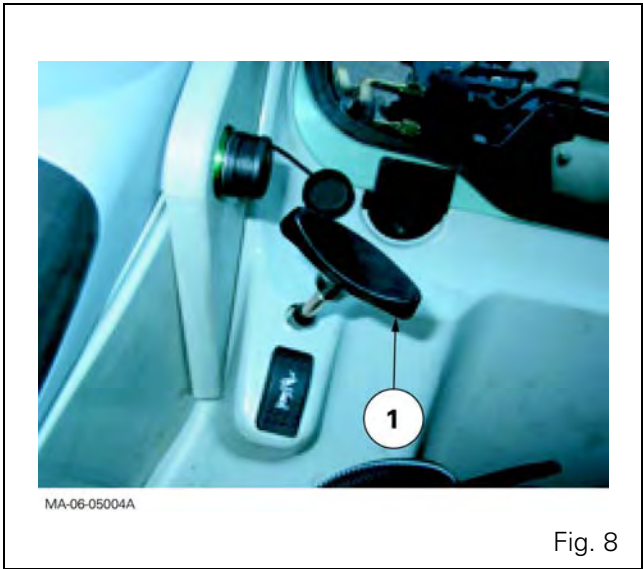
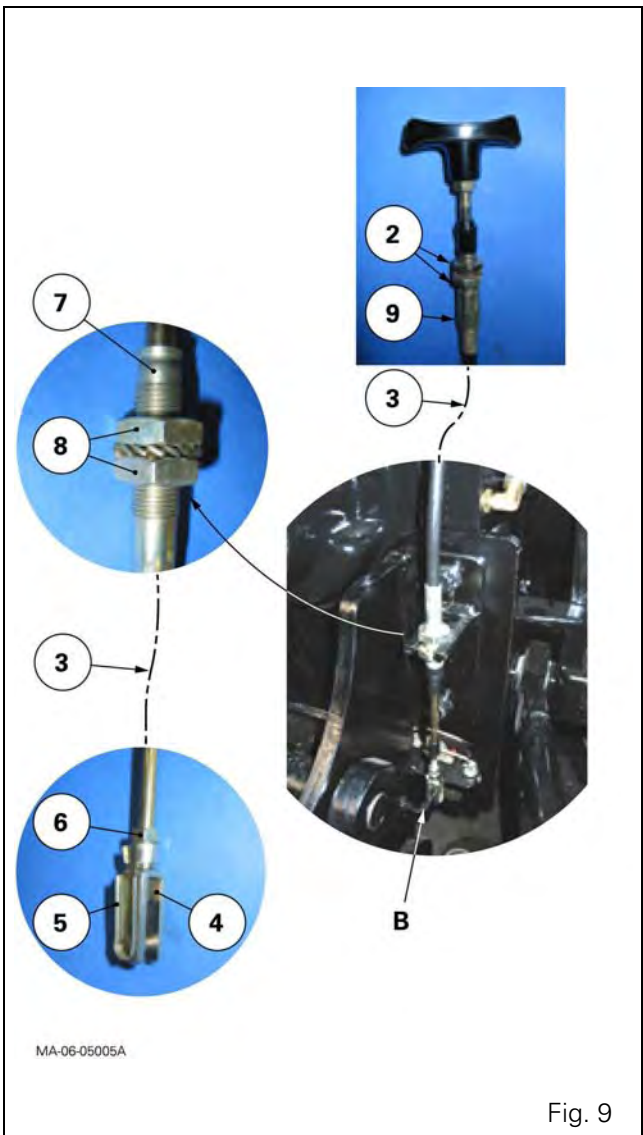

Fig. 8
Fig. 9
Unlock the moving plate, using the handle (1) located in the cab at the rear of the seat (Fig. 8).
Fitting and adjusting the control cable (Fig. 8, Fig. 9)
Fitting and adjusting the cable on the auto-hitch (Fig. 9)